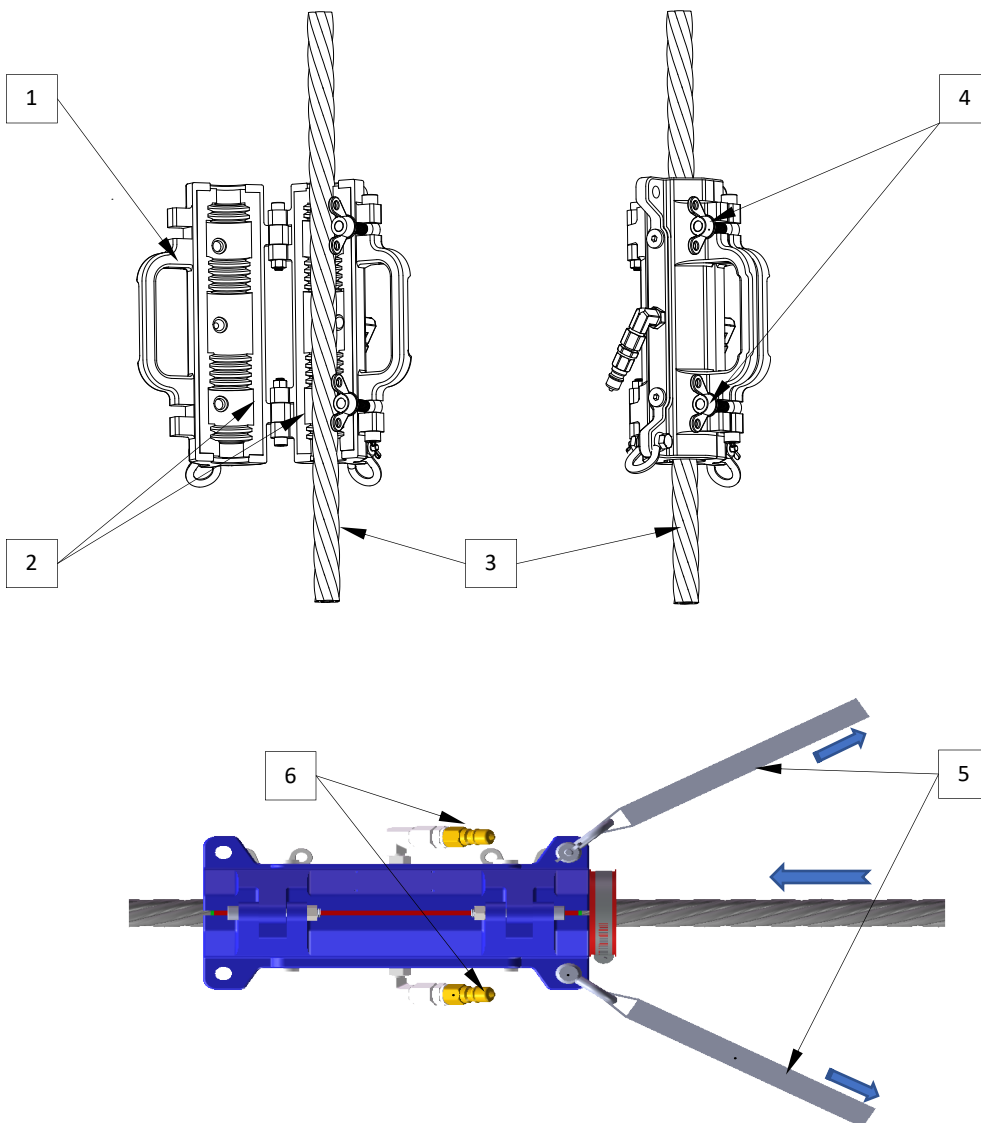

Fig.03
Install lubricator to wire rope (Fig. 03)
- ✓ Install wire lubricator on wire rope in advance (Fig. 03, page 8).
- ✓ The groover cleaner consists of three parts bushing (3.1 / 3.2 / 3.3), prior to assembly two parts of them around wire rope (1), wrap clamp (2) around groover, then insert the third part into clamp and tighten screw to fix it properly.